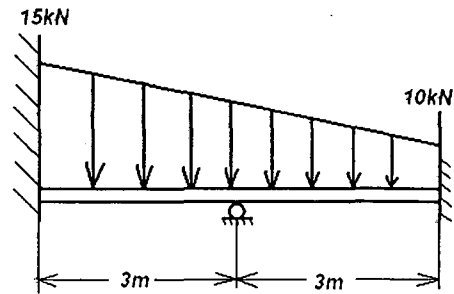

Fig.12.b
- 12 b) Compute the reactions for the beam loaded as shown in Fig. 12.b.  $E = 200 \text{ GPa}$ ,  $\rho = 0.78 \times 10^6 \text{ kg/m}^3$  and the beam is of rectangular cross section of depth  $0.6 \text{ m}$  and width  $0.4 \text{ m}$ . Determine also the natural frequency of the beam.